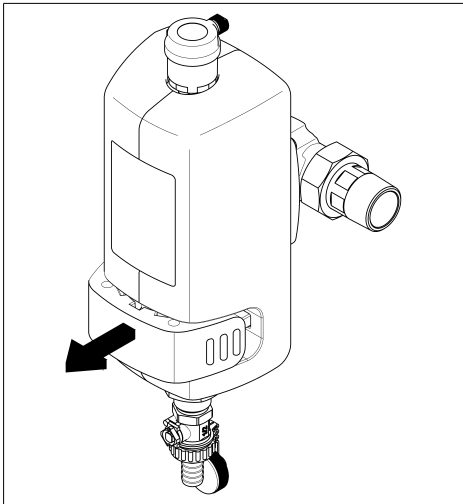

Fig. 7: Pulling out magnet holder
- Pull the magnet holder out of the housing as far as it will go, to allow the sludge retained to drop to the unit floor (see fig. 7).